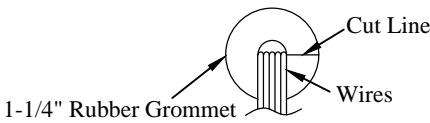

Figure 20: Assembled grommet.
7. Cut each 1-1/4" grommet from the inner hole outward (Figure 20).
8. Place each 1-1/4" grommet around wires (Figure 20)